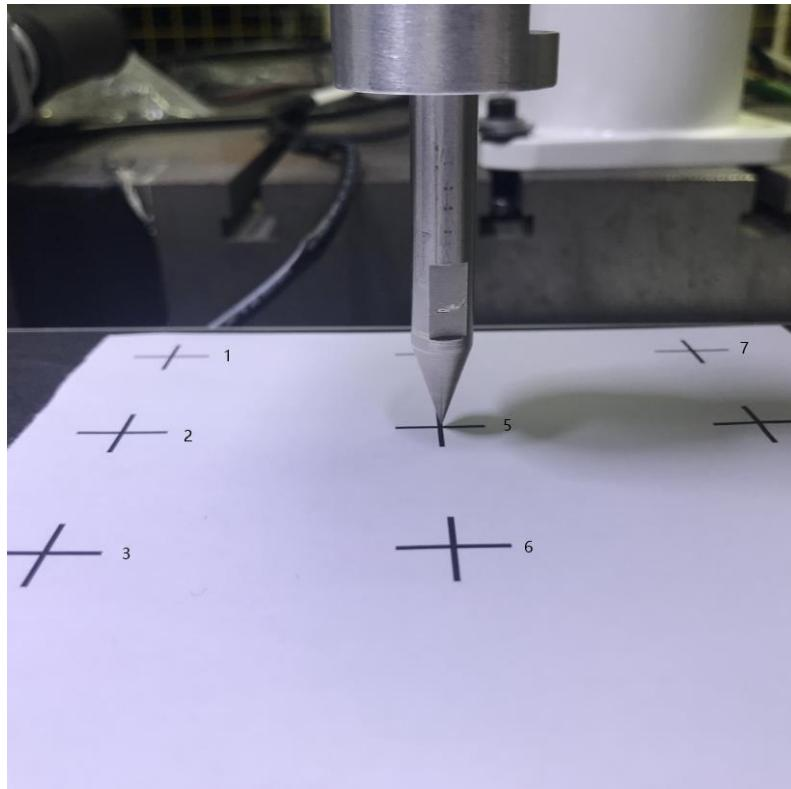
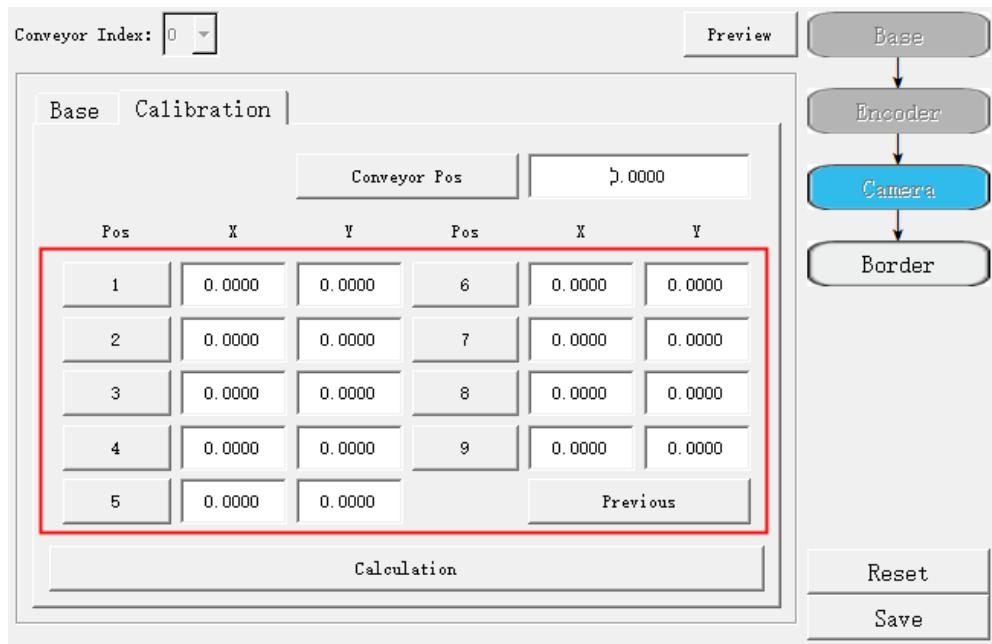

Figure 5.18 Vision calibration
Figure 5.19 Get the Cartesian coordinates of the nine points on the calibration board
7. Make the 3-position switch in the middle gear to enable the motor and jog the robot to the corresponding nine points on the calibration board and click the right index on the calibration page respectively as shown in Figure 5.18 and Figure 5.19.